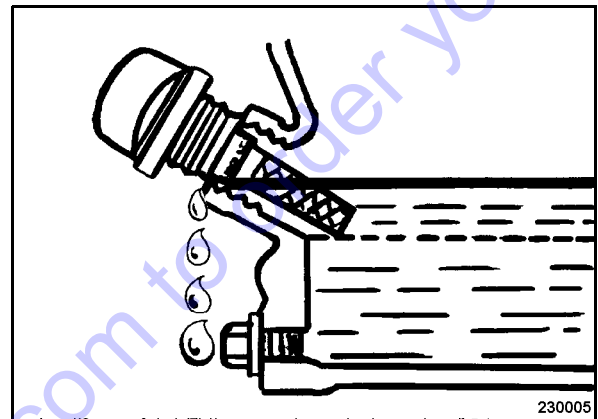

Fig. 42
- Pull out the dipstick (Fig. 42) and wipe it clean with a lint-free, clean cloth.